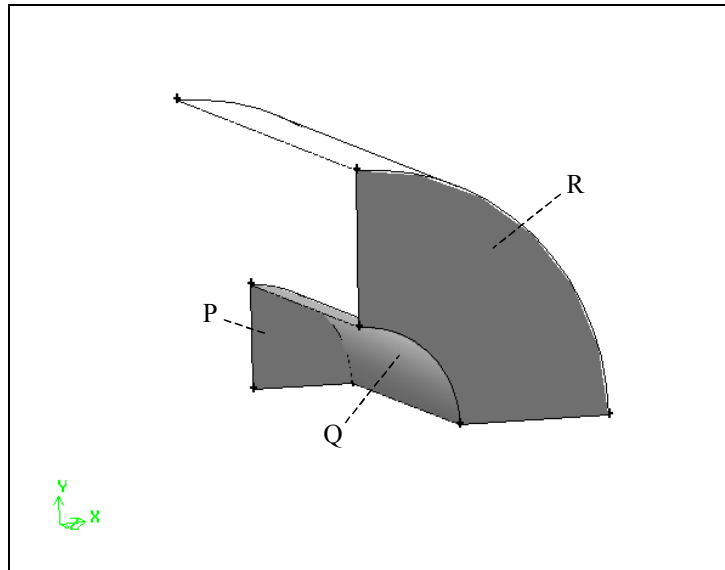

Figure 4-27: Faces to be meshed in the burner geometry
- a) Select the face marked P in Figure 4-27.
- a) Select the face marked Q in Figure 4-27.
- a) Select the face marked R in Figure 4-27.